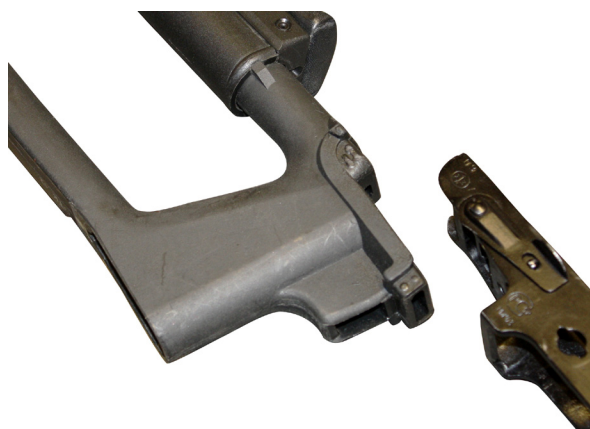

Figure 17. The Buttstock and Receiver Separated.
21. Separate the buttstock from the receiver. Refer to Figure 17.